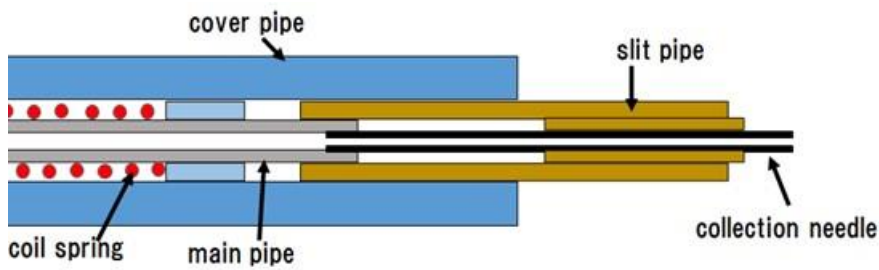

Figure 2-12 Structure of a collection needle
(2) Take a collection needle out of the collection needle unit: A collection needle unit consists of a main shaft pipe, a cover pipe, a slit pipe and a coil spring as shown in figure 2-12. A collection needle is pressed into the main shaft pipe and fixed. The tip of a collection needle normally 2mm protrudes from the slit pipe. You push the slit pipe a little bit into the main shaft pipe to make the protruding part long. Then you hold the protruding part of the collection needle part tightly with tweezers. You push the tweezers with your thumb to remove the collection needle from the collection needle unit. Be careful not to slide the tweezers on the collection needle, which gives heavy damage on the needle tip. As the end of the collection needle is digging in the main shaft pipe, the collection needle is tightly connected to the main shaft pipe. However, if the digging is eliminated, the collection needle can be easily taken out of the collection needle unit.